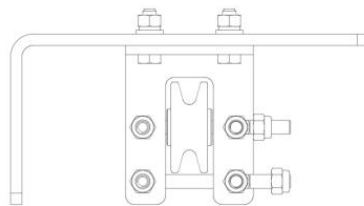

Figure 4.3-7
- The first-stage guide wheel is recommended to use the type of guide wheel shown in Figure 4.3-7.